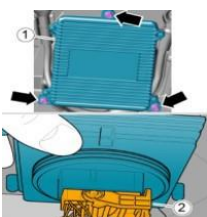

Figure 1
- Referring to Figure 1 - Using an external torx socket - Remove (x3) fixings (1.5) Nm and carefully extract the control unit (1) to gain access to the harness connector (2)